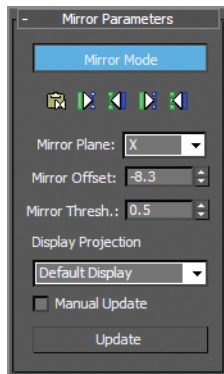

FIGURE 12.24
13. Then set Mirror Offset to -8.3 , as shown in Figure 12.24. This moves the mirror plane along the X-axis